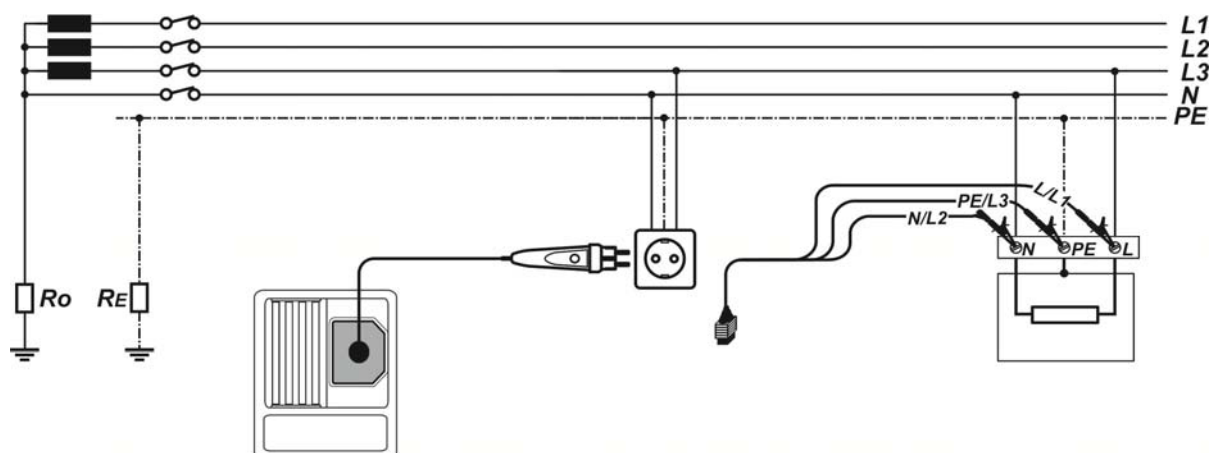

Figure 5.33: Connection of plug test cable and 3-wire test lead
- ❑ **Connect** test leads to the item to be tested (see *Figure 5.26* and *Figure 5.33*).